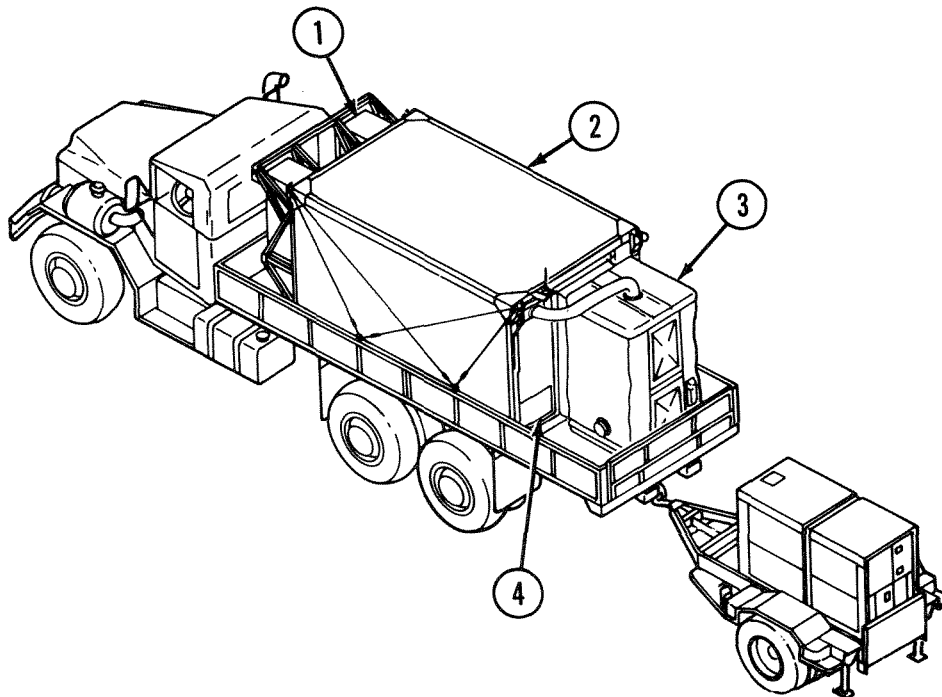

Figure 2-41. RSGF Major Exterior Features
a. *Exterior Features.* Figure 2-41 shows RSGF major exterior features.